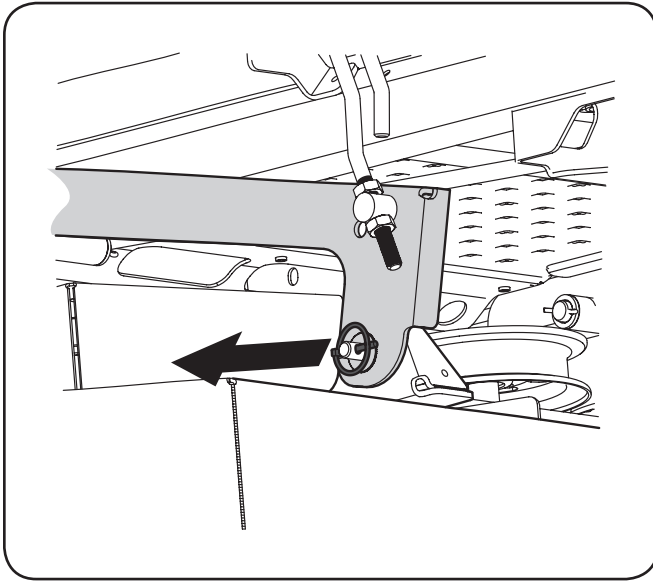

Figure 7-6
6. Locate the LH and RH deck release pins on each side of the deck. Pull the release pins outward and release the deck from the LH and RH deck lift arms. See Figure 7-6.
4. Pull the deck release pins outward and maneuver the deck as necessary to align the holes in the deck lift arms with the pins. Refer to Figure 7-6.